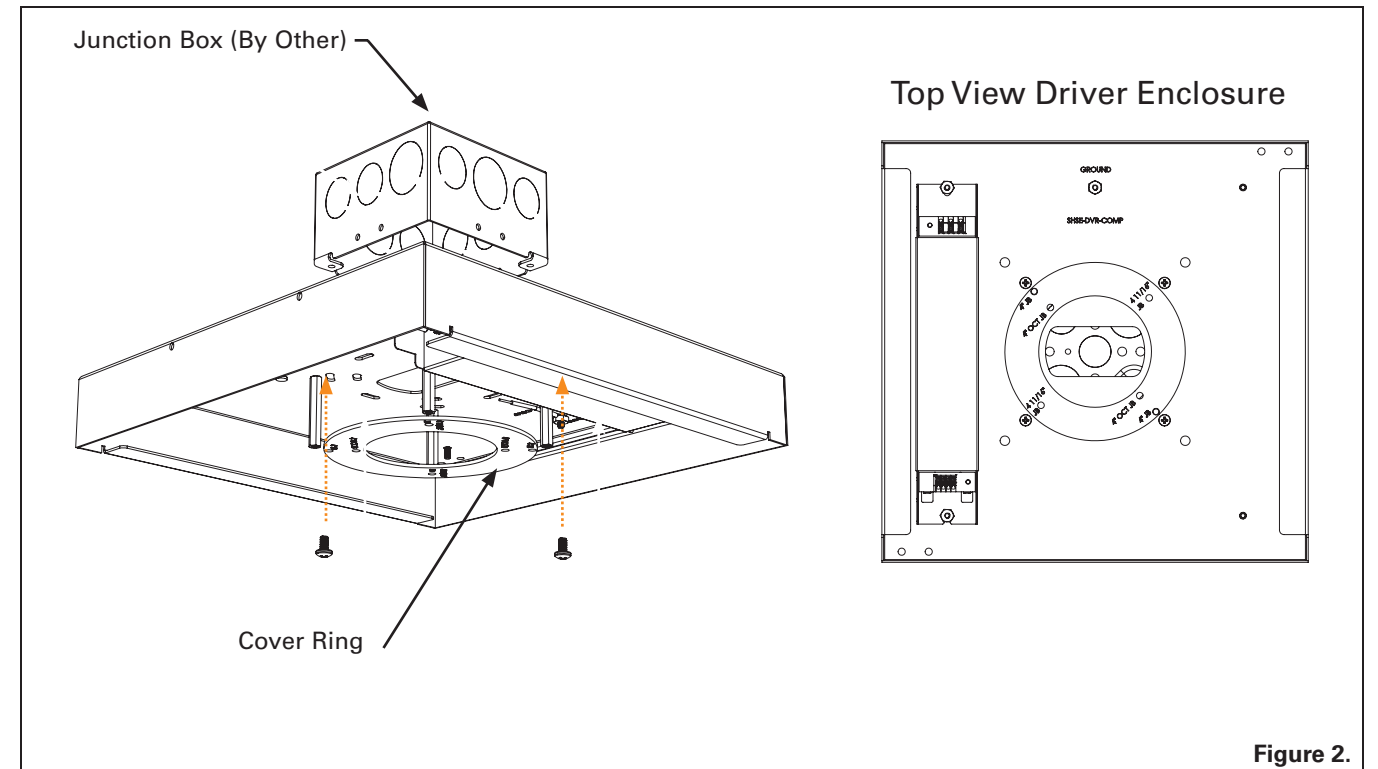

Figure 2.
Step 2. Using the J-Box screws (by others), align the Cover Ring to inside of the Driver Compartment. Screw the parts to the J-Box. The Cover Ring must be used to reinforce the center of the housing. Ref. Figure 2.